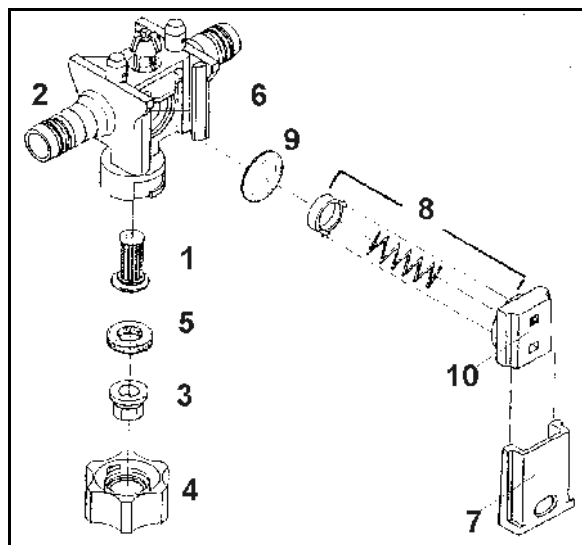

Fig. 177
From time to time, check the seating of the slider (Fig. 177/7).
- To do this, insert the slider into the nozzle body (Fig. 177/2) as far as possible using moderate thumb pressure.
1. Insert the nozzle filter (Fig. 177/1) into the nozzle body (Fig. 177/2) from below.
2. Insert the nozzle (Fig. 177/3) into the bayonet nut (Fig. 177/4)
3. Insert the rubber seal (Fig. 177/5) above the nozzle.
Deposits on the diaphragm seat (Fig. 177/6) can cause the nozzles to drip after the boom is shut-off. If this occurs, clean the diaphragm in question as follows:
1. Pull the slider (Fig. 177/7) out of the nozzle body (Fig. 177/2) towards the bayonet nut.
2. Remove the spring element (Fig. 177/8) and the diaphragm (Fig. 177/9).
3. Clean the diaphragm seat (Fig. 177/6).
Note the correct orientation for installing the spring element. For installation, the stepped, upwards-sloping edges on the left and right of the housing of the spring element (Fig. 177/10) must slope up in the direction of the boom profile.